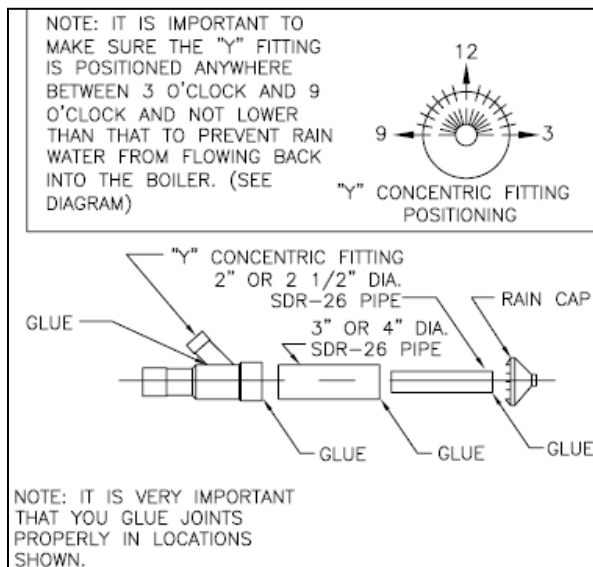

Figure 1 – Kit Components
a. Cement Y concentric fitting to larger diameter kit pipe (see Fig. 1).
b. Cement rain cap to smaller diameter kit pipe (see Fig. 1).
- a. Cement the Y concentric fitting to larger diameter kit pipe (see Fig. 1).
- b. Cement the rain cap to the smaller diameter kit pipe (see Fig. 1).